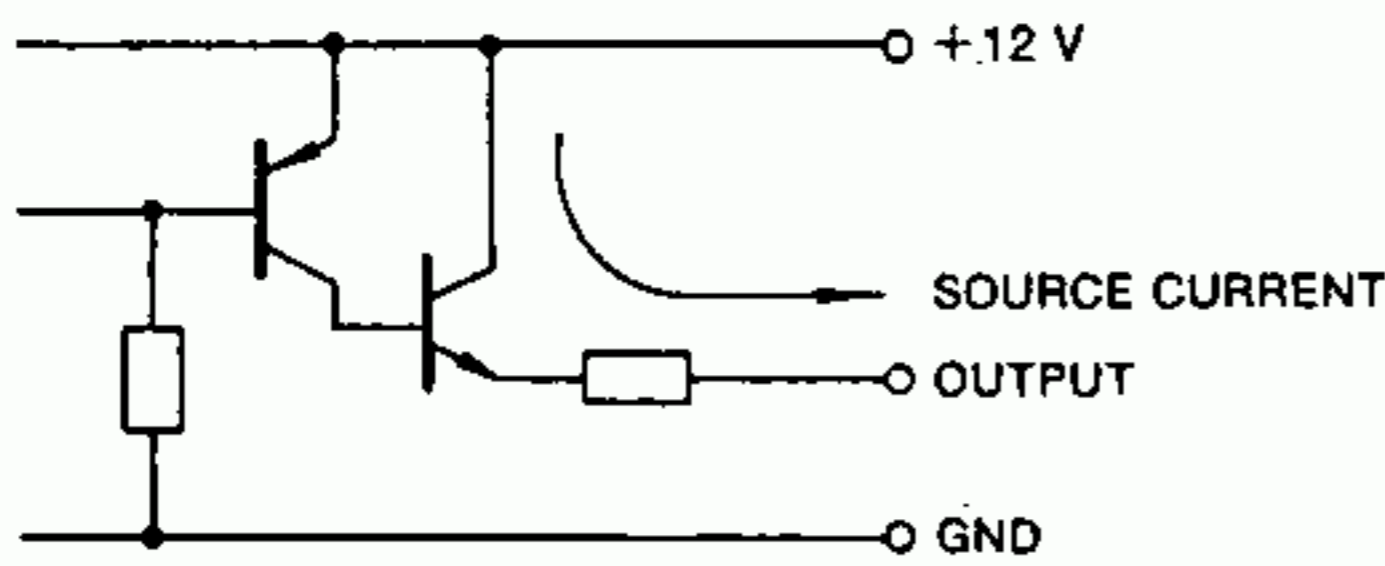

Fig. 1 Strobe Output Circuit
- Output current: Source current } See Fig. 1.